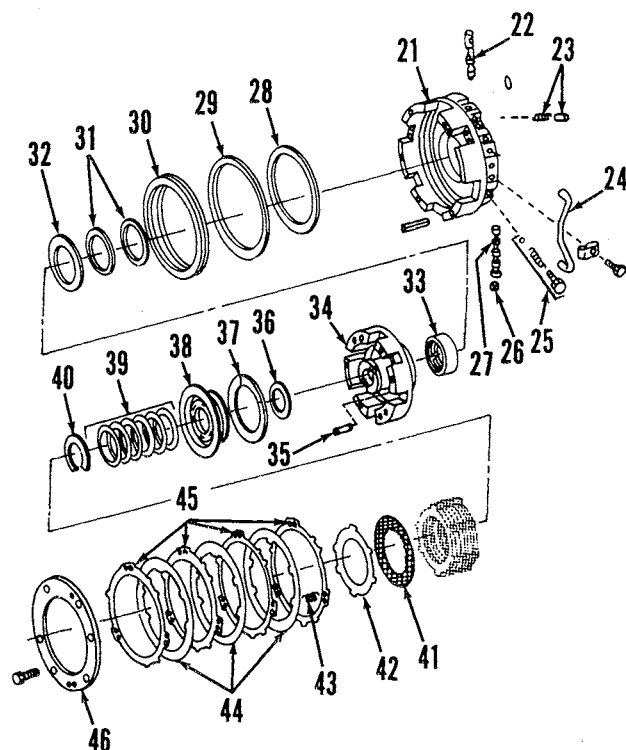
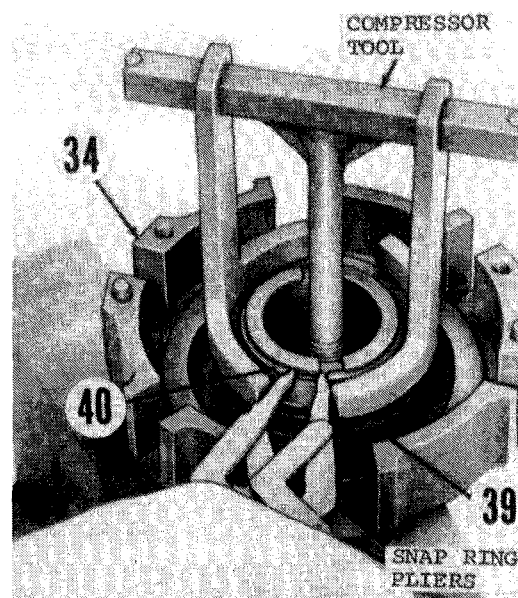

Fig. 113—Exploded view of planetary clutch and brake assembly.
Fig. 114—Compress spring washers (39) with JDT-24A tool or other suitable tool to remove snap ring (40).
To disassemble clutch and brake unit, remove six cap screws which hold backing plate (46—Fig. 113) to brake housing (21). Remove piston return springs (43), brake separator plates (45) and discs (44). Lift out clutch drum (34) and remove high range sun gear, separator plates (42) and clutch discs (41). Remove brake piston (30). The clutch piston spring washers (39—Fig. 114) must be compressed using JDT-24A compressor tool or other suitable tool before snap ring (40) can be removed. Release spring pressure, then remove spring washers and piston from clutch drum.
Inspect all parts for excessive wear or other damage. Use the following specifications as a basis to determine if parts should be renewed. Reference numbers refer to Fig. 113.
Inside diameter of clutch drum bushing (33—Fig. 113) should be 2.256-2.257 inches (57.30-57.33 mm). When renewing bushing, drive new bushing in until flush to 0.020 inch (0.5 mm) below surface of clutch drum.
To disassemble control valve (22—Fig. 113) and shift valve (27), first remove oil pipe (24). Hold a cloth over housing oil port to catch detent pin and spring (23) as control valve spool (22) is pulled from housing. Remove plug, spring and shift valve detent ball (25). Drive spring pin out of housing, then remove plug (26) and shift valve spool (27).
Renew piston seal rings and coat with hydraulic oil prior to assembly. Install spring washers (39—Fig. 113) alternately beginning with inner diameter of first washer against the clutch piston. Use JDT-24A compressor tool or other suitable means to compress spring washers until retaining ring can be installed. Install clutch plates (42) and discs (41) alternately beginning with a separator plate against clutch piston. Assemble first brake separator plate (45—Fig. 115) so tangs are installed over spring guide pins. Install brake discs and remaining separator plates alternately with tangs of plates located in housing slots that do not have guide pins. Install return springs (43) and backing plate and tighten cap screws to 20 ft.-lbs. (27 N·m).